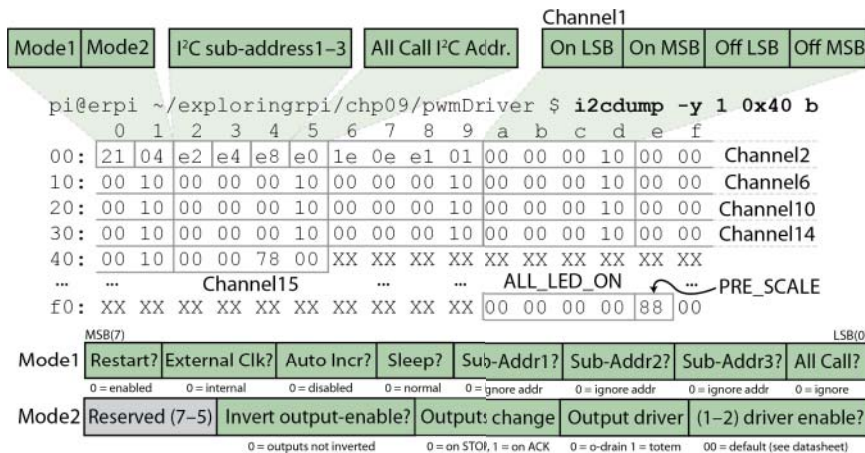

Figure 9-10: Registers for the PCA9685 16-channel 12-bit PWM controller
the possibility of controlling up to 992 servo motors using a single bus on the RPi! Figure 9-10 captures the output that results from a call to `i2cdump` on the device address, which is at I²C bus address 0x40 by default.
Figure 9-10 also illustrates the registers that can be used to control the output of the PCA9685. There are two mode registers (0x00 and 0x01) that control the behavior of the device, using bit patterns that are described at the bottom of Figure 9-10. The mode registers are followed by four address registers (0x02–0x05), which if enabled by Mode1 allow multiple PCA9685 modules to respond to a single “virtual” I²C address, because if they were a single device. For example, you could potentially control all the servos that are attached to Channel0 on multiple modules using a single call to a single sub-address that is enabled on each of the boards. Writing to the All Call I²C address (0x70) affects all the modules on the bus unless they have set the Mode1 bit so as to ignore write requests to the All Call address.
You may also need to set the Mode1 state to enable the outputs (see the bottom of Figure 9-10). For example, to set Mode1 to disable restart (1), use the internal clock (0), enable auto increment (1), disable sleep (0), disable all sub-addresses (000), and enable All Call (1), the 0x00 register should be set to 10100001, which is 0xA1 in hexadecimal:
This code performs the same function as was just performed manually using the Linux `i2c-tools` calls. Rather than maintain a full list of registers, the code offsets the address by four times the desired output number. For example, to set the “turn on” LSB for Channel5, the calculation is $\text{LED0_ON_L} + (5 \times 4) = 0x06 + 20_{10} = 0x1A$. You can confirm this result in Figure 9-10 by locating the first register address of Channel5.